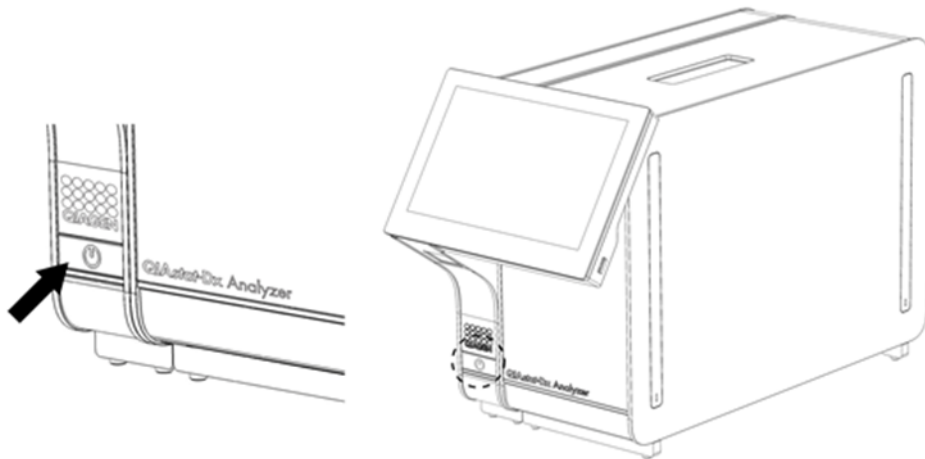

Figure 22. Pressing the ON/OFF button to start the instrument.
1. Press the **ON/OFF** button on the front of the QIAstat-Dx Analyzer 2.0 to start the unit (Figure 22).